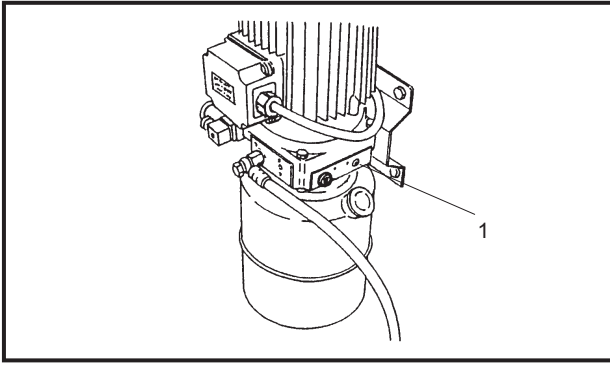

Fig.20
- In the case of excess weight on the lift the relief valve on the hydraulic power unit will open (Pos.1, fig.20).